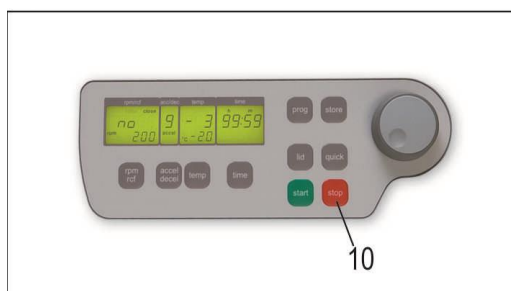

Figure 33
With the "stop" key (10) the run time can be interrupted at any time (see Figure 33). After pressing the key, the centrifuge decelerates with the respective pre-selected intensity down to a standstill.